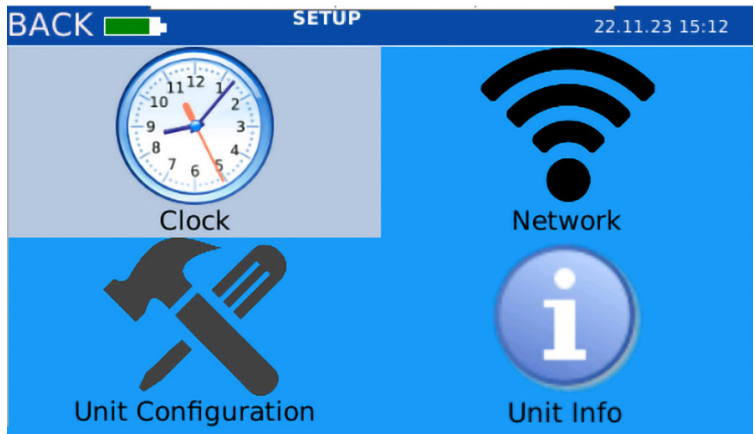

Figure 10. Select "Network"
- 1. In the Setup menu, select **Network** (Figure 10).